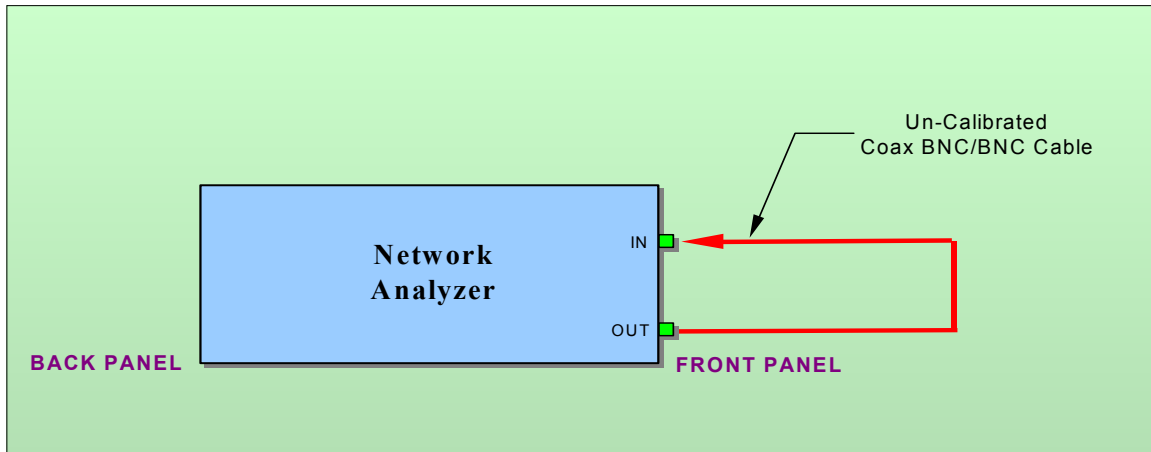

Figure 21 Coax BNC/BNC Cable Calibration Diagram
1. Connect the READ CH.OUT test point with a coax BNC/BNC cable to the OUT connector on the front panel of the network analyzer. (See Figure 21.)